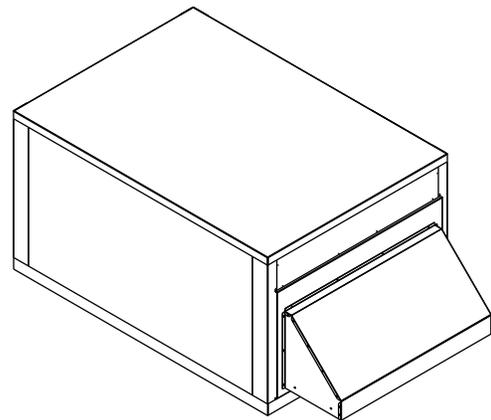

Fig. 46 — Secure Door Panel to Unit
8. Align the holes in the top and bottom of the door panel to the holes in the rooftop unit. Secure the door panel to the unit using the provided no. 10-16 x 1/2 screws as shown in Fig. 46.